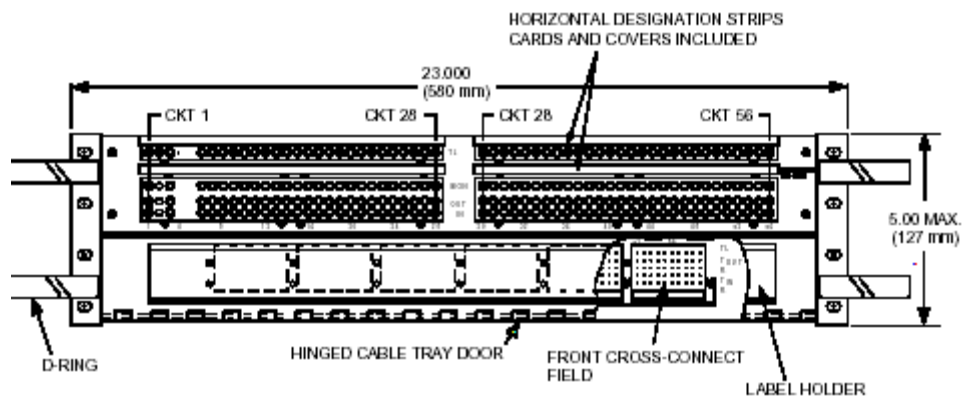

Figure 4. Front View of Panel
5. Open hinged cable tray door on the front of the panel to expose cross-connect field (see Figure 4).